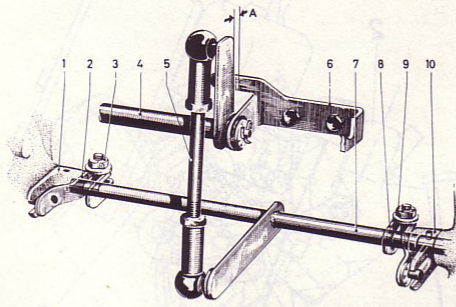

Fig. 30. Intermediate shaft and levers
2. Fit the intermediate shaft in position between the carburetors, see Fig. 30. Make sure that the protective plate is in good condition and that the sealing surfaces are clean.
1. Place a 0.5 mm feeler gauge at "A" Fig. 30 between the lever and its abutment. Screw out the fast idling and idling screws (2, Fig. 31) so that the throttle flap is fully closed.
2. Loosen the lock nuts (3 and 9, Fig. 30) and press the outer end of the levers (2, 8) on the